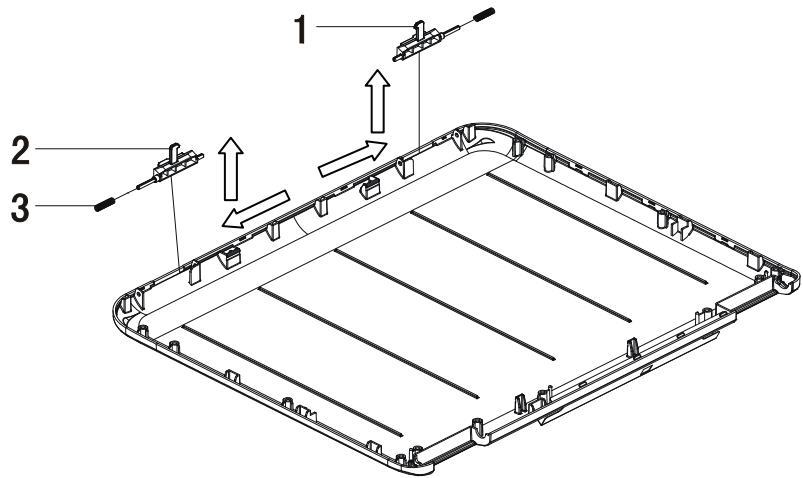

Figure 4-10 Removing the Hook
- 10) According to Figure 4-10, first press the spring in axial direction, wait until the shorter axis comes out, and then take out the hook upward.